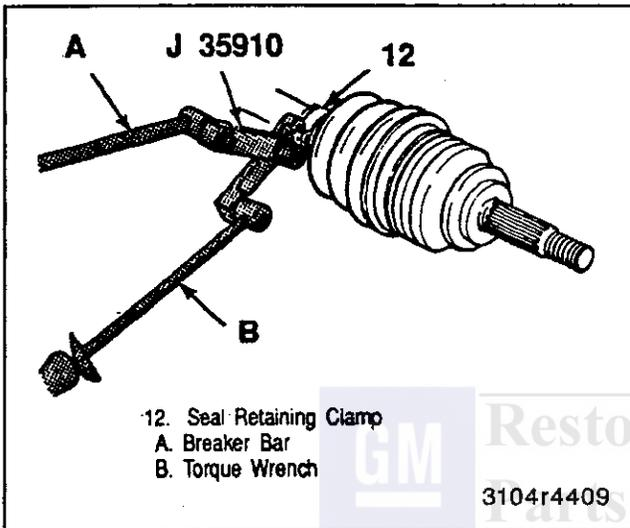
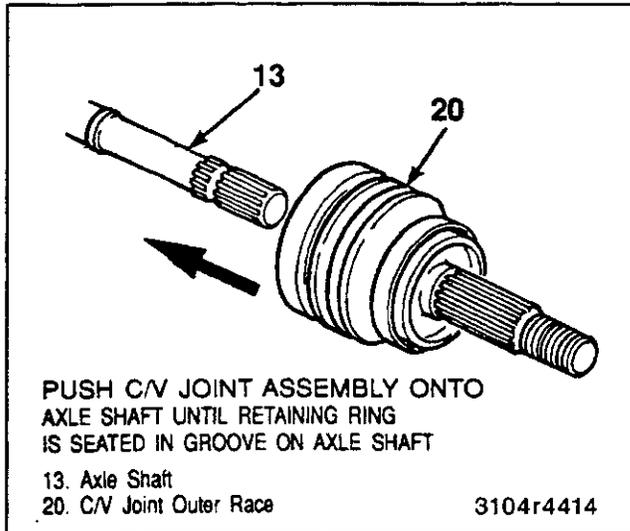

Figure 14—Installing Seal Retaining Clamp
Figure 19—Installing C/V Joint to Axle
- Retaining clamp (12) to 136 N.m (100 lbs. ft.) (figure 14).
- C. Place approximately half of the grease provided inside the seal (12) and repack the C/V with the remaining grease.
4. Swage ring (9).
- A. Pinch by hand slightly to distort into an oval shape and slide onto large diameter of the seal (12).
- B. Push C/V joint onto axle shaft (13) until retaining ring (14) is seated in groove on axle shaft (figure 19).
- A. Slide the seal (12) onto the axle shaft (13) and position the neck of the seal in the seal groove on the axle shaft.
- B. Crimp the self-retaining clamp (11) with J 35910 to 136 N.m (100 lbs. ft.) (figure 19).
2. Swage ring (9).
- B. Push C/V joint onto axle shaft (13) until retaining ring (14) is seated in groove on axle shaft.
- C. Slide large diameter of the seal (12) with the large swage ring (9) in place over the outside of the C/V joint race (18) and locate the seal lip in the housing groove.
- Crimp seal retaining clamp (12) with J 35910 to 136 N.m (100 lbs. ft.) (figure 14).